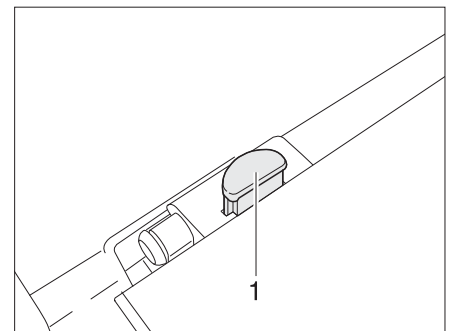

Fig. 35 Table top locking mechanism
- Press the release knob (Fig. 35,1) at the locking mechanism of the table-top.